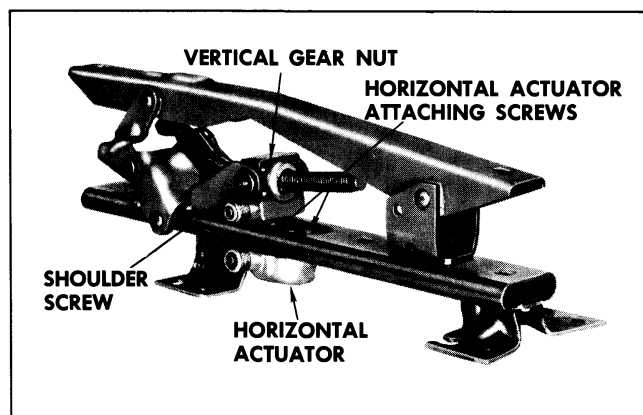

Fig. 17-6 Seat Adjuster
4. Using a clutch type screwdriver or other suitable tool, remove shoulder screws securing linkage to vertical gearnut, being replaced. (Fig. 17-6).
3. Remove screws securing horizontal actuator. To adjuster lower track; then remove actuator from adjuster (Fig. 17-6).